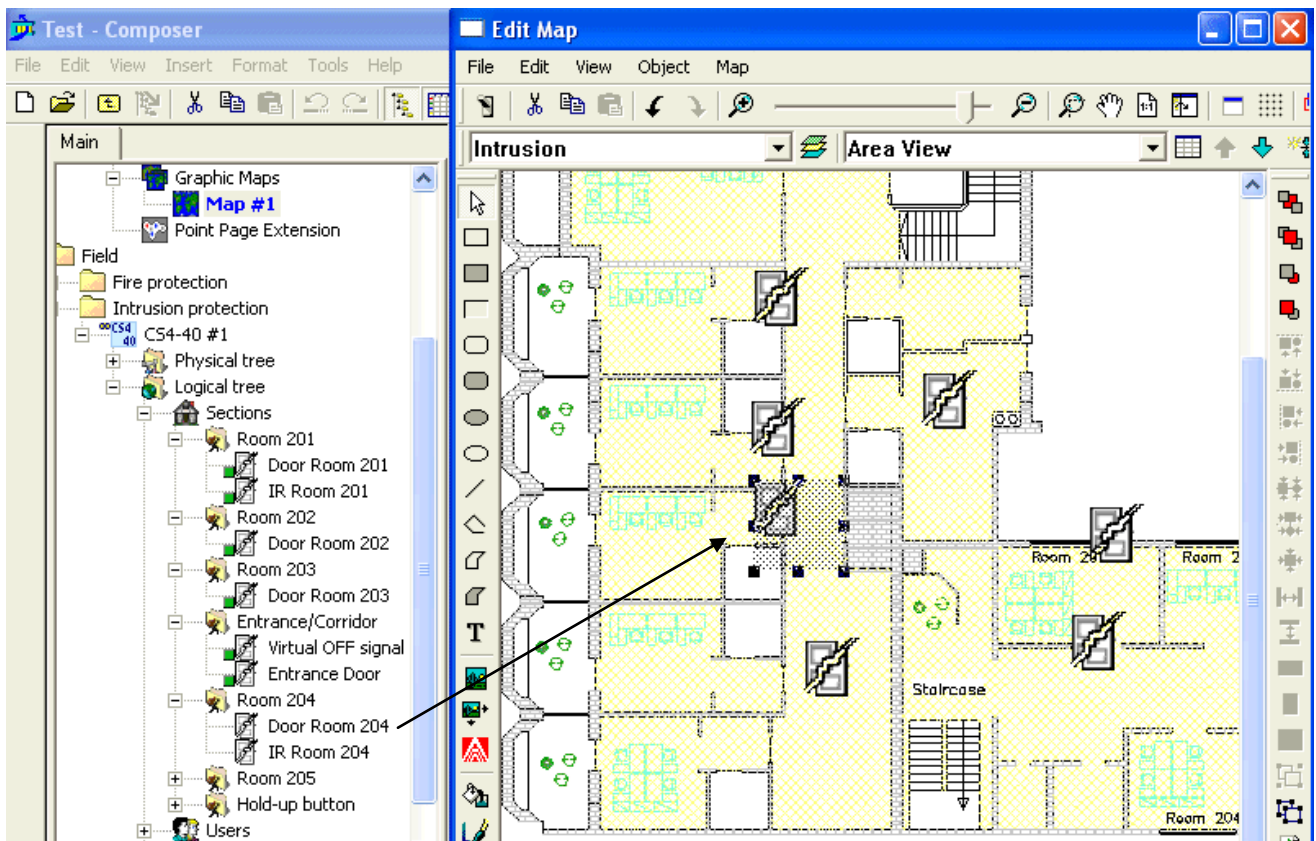

Fig. 9 Drag and drop, set default object size
4. Drag points from the tree, one at a time, and drop onto the correct position on the map. (See Fig. 9.) Note that points can be data points as well as sequence command points.